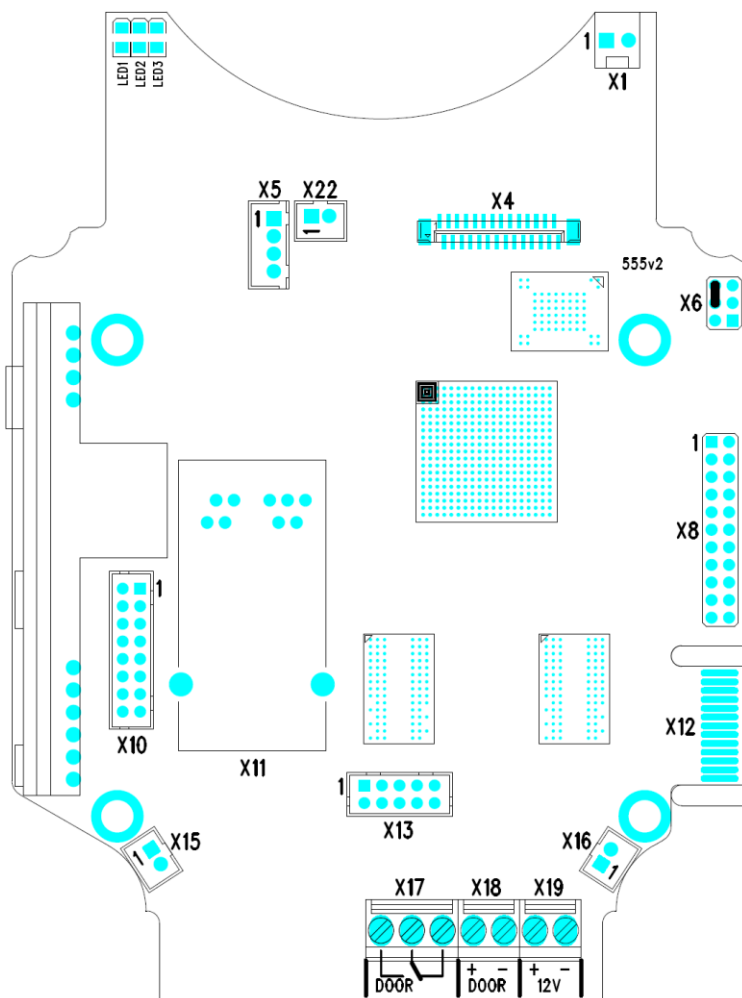

Figure 2.11 2N® Helios IP Safety Connectors, PCB Version 530v2
**Fig. 2.11** shows the lay-out of connectors on the 2N® Helios IP Safety printed circuit board (PCB). Cables, accessories and other system components are connected to connectors X1 through X22.